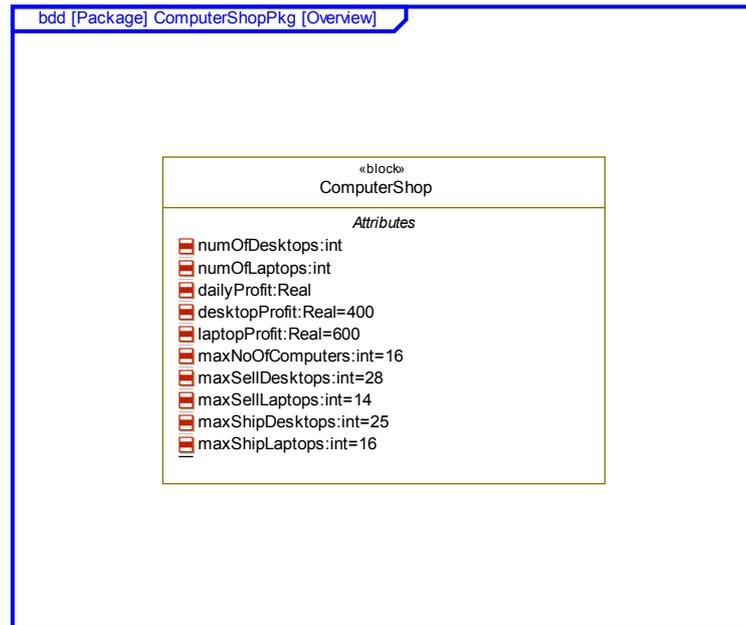

Figure 1: ComputerShop block and its attributes
2. Specify a block representing the computer shop with the attributes as shown in Figure 1. The values listed in the figure are the initial values of the ComputerShop attributes and will be used as input values for the parametric analysis.